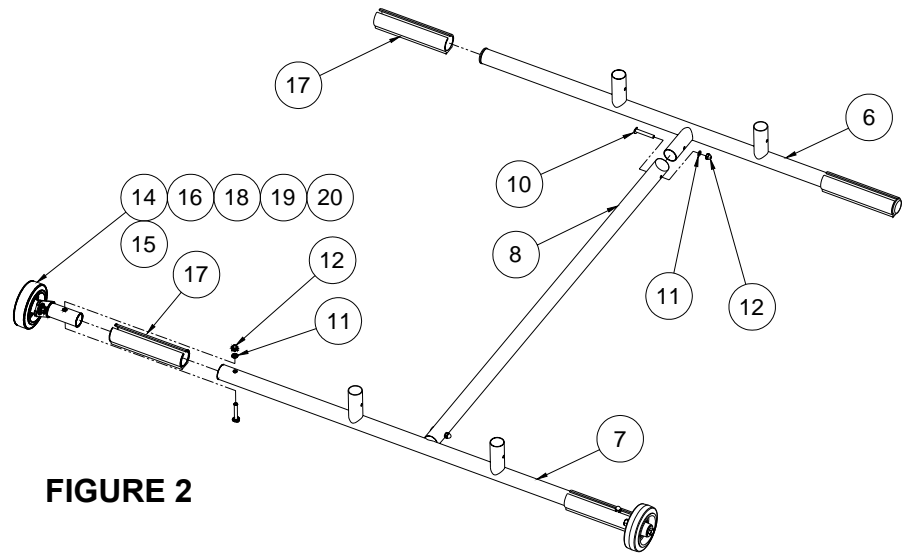

FIGURE 2
1. Place **Center Support Frame (item 8)** over **Front Support Frame (item 6)** and install **Cradle Head Bolt (item 10)** through both. Place **3/8" Lock Washer (item 11)** and **3/8" Acorn Nut (item 12)** over **Cradle Head Bolt** and tighten. Repeat for **Rear Support Frame (item 7)**. See **FIGURE 2** below.
2. Left and Right hand wheel brackets come pre-assembled. Install wheel bracket assemblies as shown below in **FIGURE 2**. Do not over tighten fasteners.
3. Place **10" Fulcrum Cover (item 17)** over the ends of the **Front & Rear Support Frames** (4 places) as shown in **FIGURE 2**.